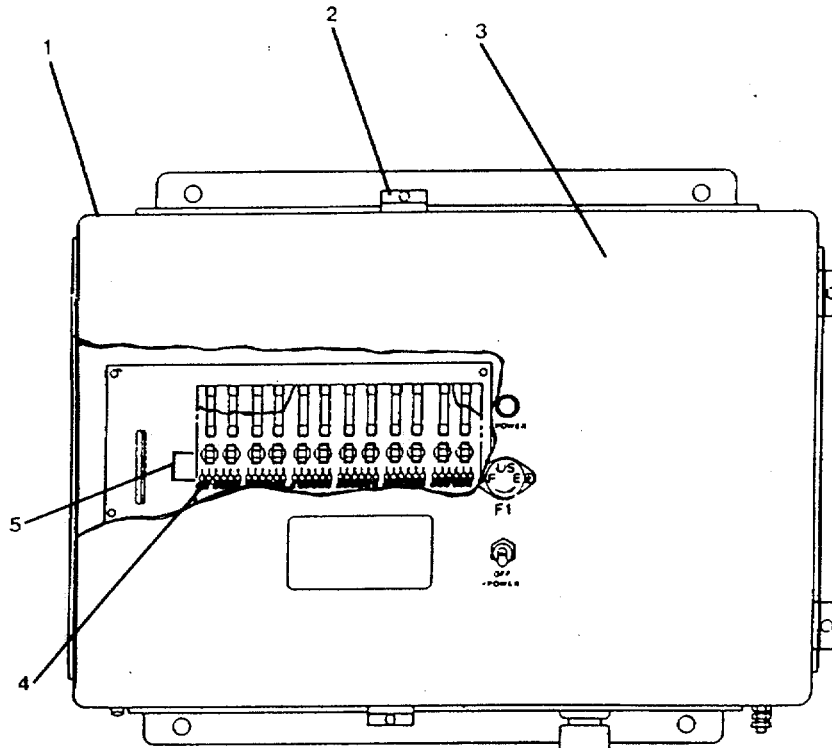
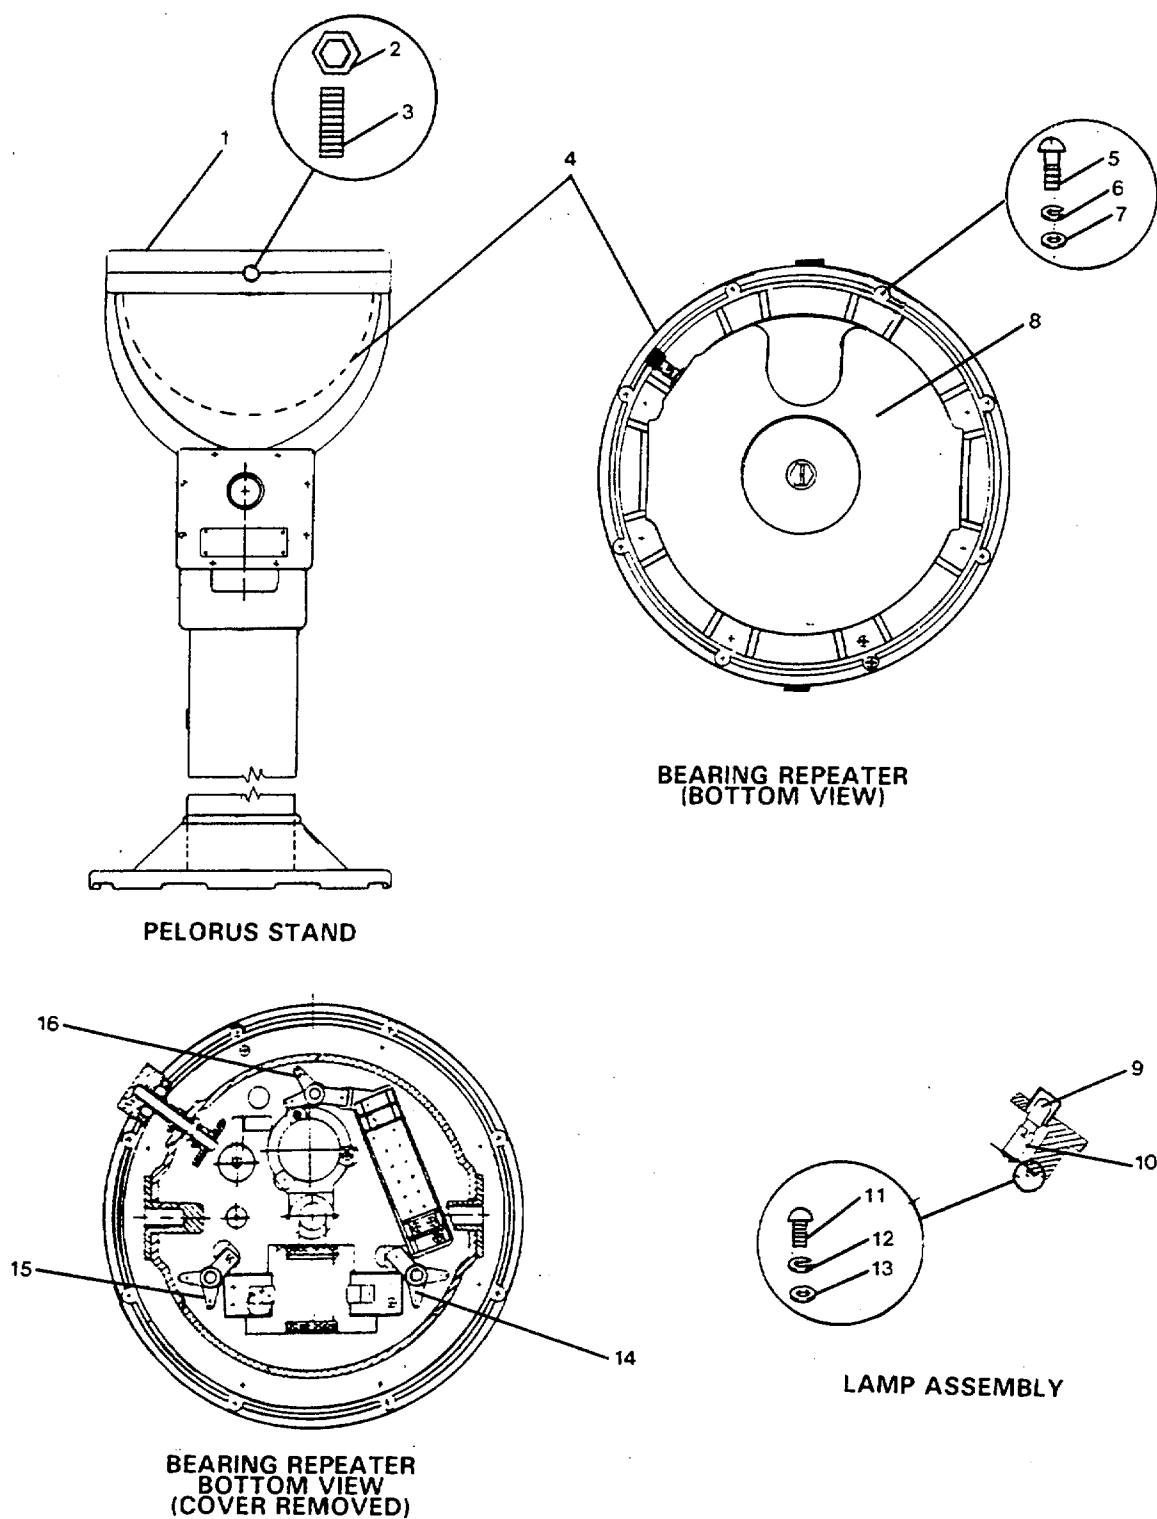
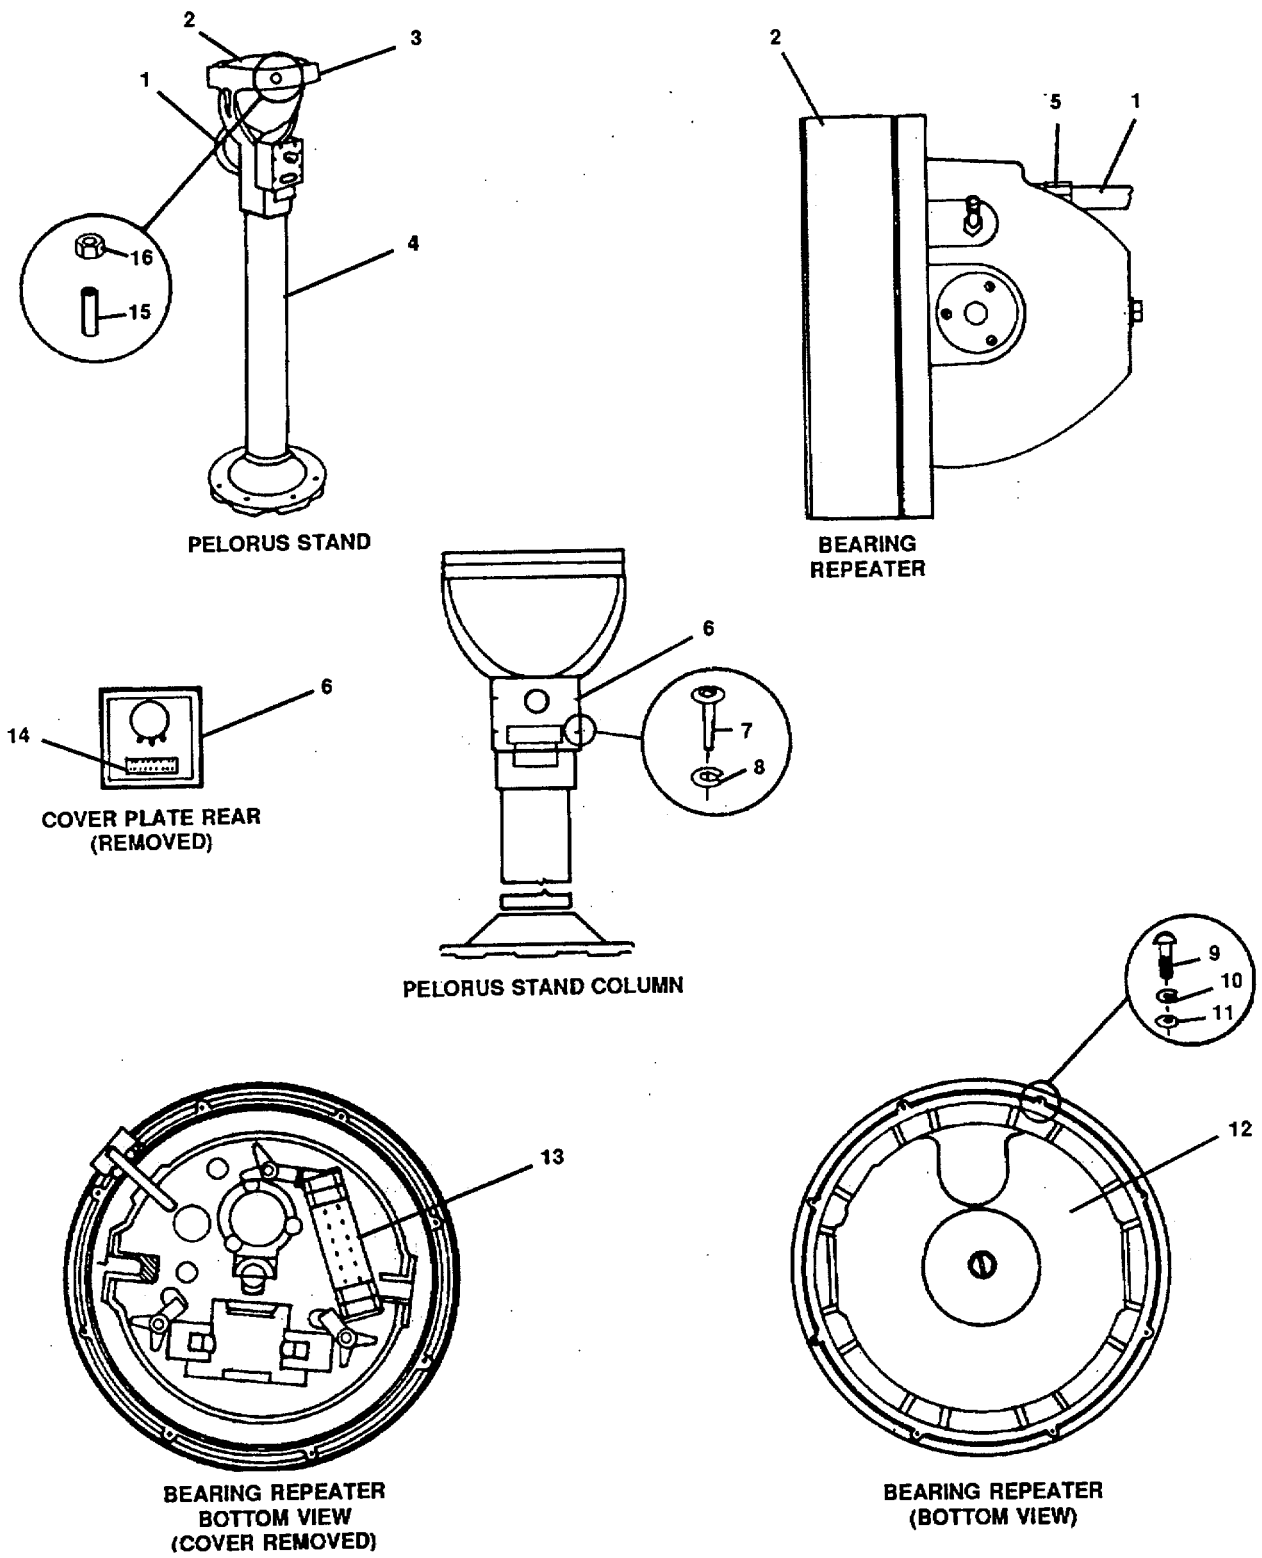

FIGURE 2-12. Relay Transmitter.
FIGURE 2-14. Bearing Repeater Lamp Replacement.
FIGURE 2-15. Bearing Repeater Cable Replacement.
2-20. Replace Bearing Repeater. (FIGURES 2-12 and 2-13)
- a. On relay, transmitter (1, FIGURE 2-12), loosen four retaining clips (2) and open cabinet cover (3).
- m. On relay transmitter (1, FIGURE 2-12), loosen four retaining clips (2) and open cabinet cover.
- n. On A2 circuit card assembly (4), set appropriate repeater switch (5) to ON.
- o. Close cabinet cover (3) and secure four retaining clips (2).
- a. Lamp replacement. (FIGURE 2-14).
- (1) On relay transmitter (1, FIGURE 2-12), loosen four retaining clips (2) and open cabinet cover (3).
- (2) On A2 circuit card assembly (4), set appropriate repeater toggle switch (5) to the down position.
- (3) Close cabinet cover (3) and secure with four retaining clips (2).
- (4) Tag relay transmitter to indicate appropriate bearing repeater "Out of Service."
- (5) On appropriate pelorus stand (FIGURE 2-14) loosen two pivot nuts (2) and two pivot screws (3) on stand support plate (1).
- (18) On relay transmitter (1, FIGURE 2-12) loosen four retaining clips (2) and open cabinet cover (3).
- (19) On A2 circuit card assembly (4), set appropriate repeater toggle switch (5) to ON.
- (20) Close cabinet cover (3) and secure four retaining clips (2).
- (21) Remove "Out of Service" tag.
- b. Special purpose electrical cable (4 ft) replacement. (FIGURE 2-15).
- (5) Loosen two pivot nuts (16, FIGURE 2-15) and rotate bearing repeater (2) in pelorus stand support plate (3) to BOTTOM VIEW position.
- (6) Remove eight screws (9), lockwashers (10), and flat washers (11) securing cover (12) to bearing repeater.
- (7) Remove bearing repeater cover (12) as far as cabling will allow.
- (8) Tag and disconnect cable (1) wiring from bearing repeater terminal board (13).
- (9) Disassemble stuffing tube (5) from cable (1) and pull cable (1) from bearing repeater.
- (10) On pelorus stand (4) remove eight pan head screws (7) and lockwashers (8), and remove cover plate (6) as far as cabling will allow.
- (11) On terminal board (14), tag and disconnect cable (1) wiring.
- (12) On rear of pelorus stand, disconnect cable gland on cable (1) from pelorus stand and route cable (1) from stand. Remove cable gland from cable.
- (13) Install cable gland on replacement cable (1).
- (14) Route cable (1) into pelorus stand at rear.
- (15) Connect cable (1) wiring to terminal board (14). Remove tags.
- (25) On relay transmitter (1, FIGURE 2-12) loosen four retaining clips (2) and open cabinet cover (3).
- (26) On A2 circuit card assembly (4), set appropriate repeater toggle switch (5) to ON.
- (27) Close cabinet cover (3) and secure four retaining clips (2).